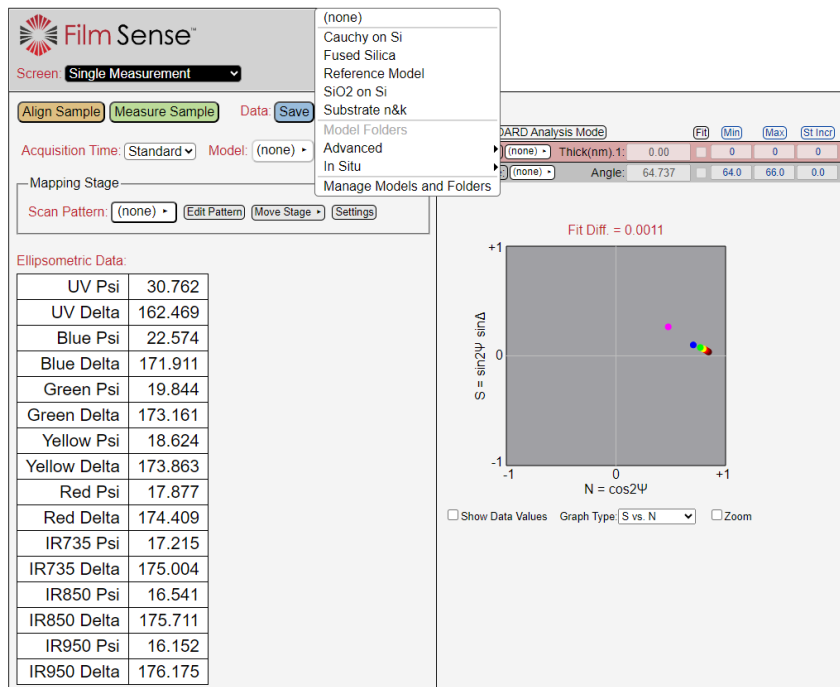

Figure 5: Select model
11. Measuring samples. In **Screen: Single Measurement** select the **Model** to analyze the data (see fig.5). If model is set to **(none)**, the Ellipsometric Data at each measurement wavelengths will be displayed.